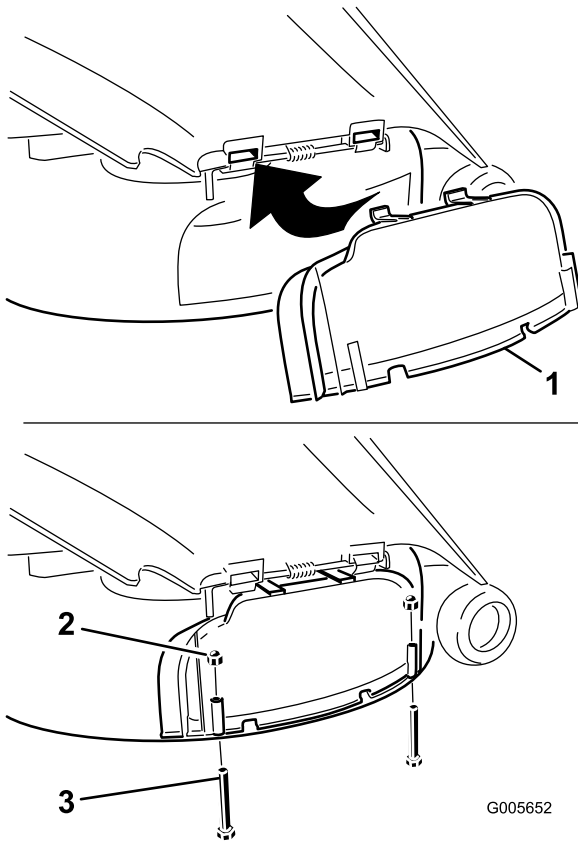

Figure 27
3. Lift the grass deflector and slide the tabs on top of the discharge cover under the grass deflector retaining rod. Rotate the discharge cover down over the opening, and onto the lower lip of the mower (Figure 27).
4. Secure the discharge cover to the lower lip of the mower with two bolts (1/4 x 2-1/2 inches) and two cap nuts (1/4 inch) as shown in Figure 27.